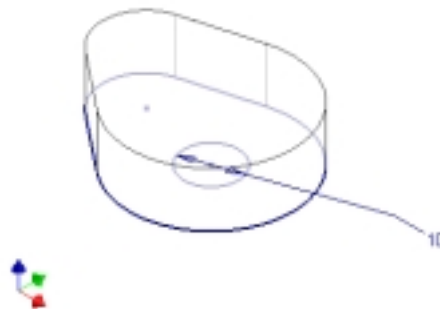

Figure 3-10
4. Construct a sketch in accordance with Figure 3-10.